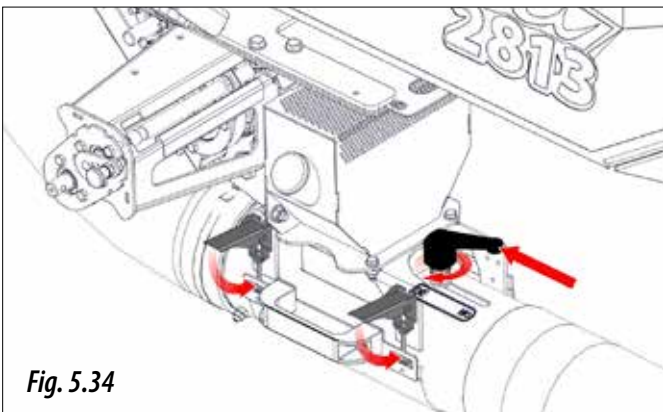

Fig. 5.34
4.A.5- When no more product comes out, close the Venturi injector cover, move the calibration control to the "OK" position and lock it (Fig. 5.34).